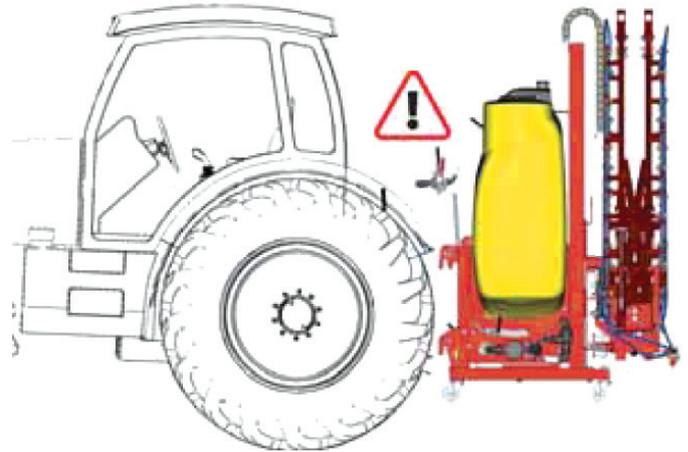

Figure 5
22) It should be remembered that there are moving parts between the equipment and the tractor, and it is strictly forbidden to stay in this area. (Figure 5)
23) It is strictly forbidden to stand in the area between the tractor and the implement while the engine is running and the cardan shaft is connected. (Figure 5) It is only possible to work in this area after the handbrake is pulled, the wheels are chocked and all the equipment and tractor parts are blocked.